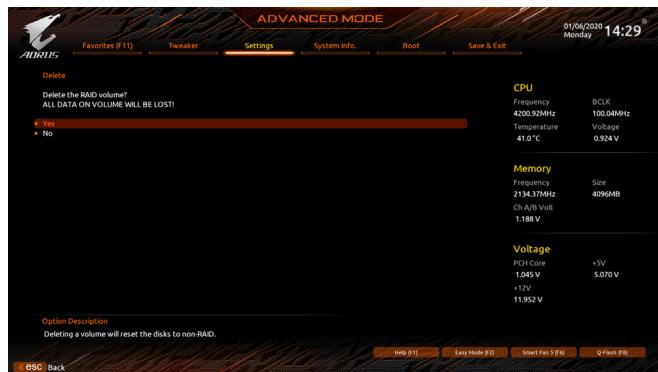

Figure 12
To delete a RAID array, press <Enter> on the volume to be deleted on the Intel(R) Rapid Storage Technology screen. After entering the **RAID VOLUME INFO** screen, press <Enter> on **Delete** to enter the Delete screen. Press <Enter> on **Yes** (Figure 12).